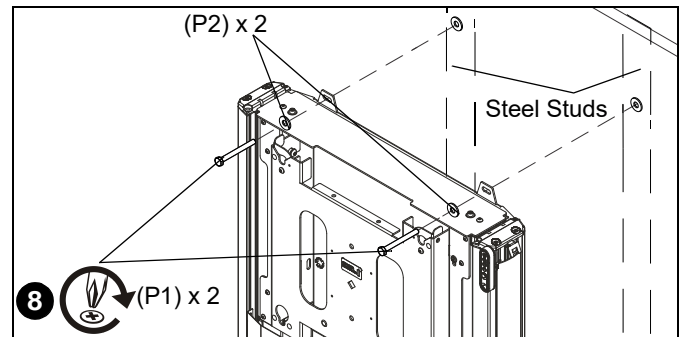

Figure 17
7. Place mount over anchors and align mounting holes on mount with holes in anchors. (See Figure 17)
8. Insert two 1/4-20 x 2 1/4" hex head tapping bolts (P1) through two 1/4" washers (P2), corresponding mounting holes on mount and into anchors (P3) and tighten until flush against mount. DO NOT overtighten! (See Figure 17)